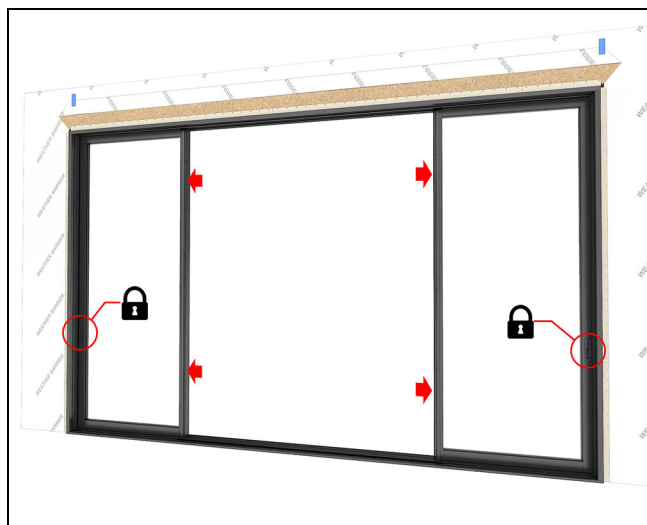

Figure 147
2. Close and lock the panels. See Figure 147.